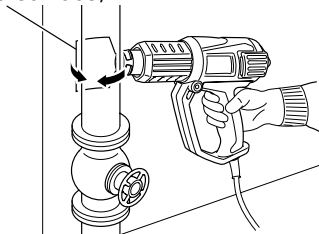

Fig. 11
6. Defrosting water pipes (Fig. 11)